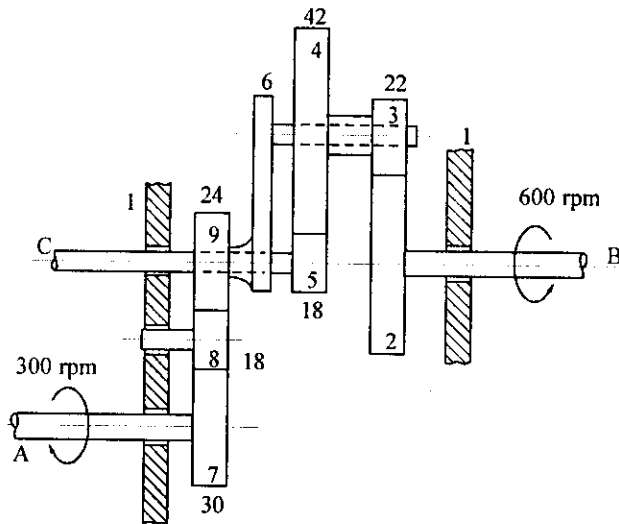

Fig. 7.43
4. For the gear train shown in fig. 7.43 shaft A rotates at 300 rpm and the shaft B at 600 rpm in the same sense of A. Determine the speed and the direction of rotation of shaft C. [Ans. 1281.82 rpm]